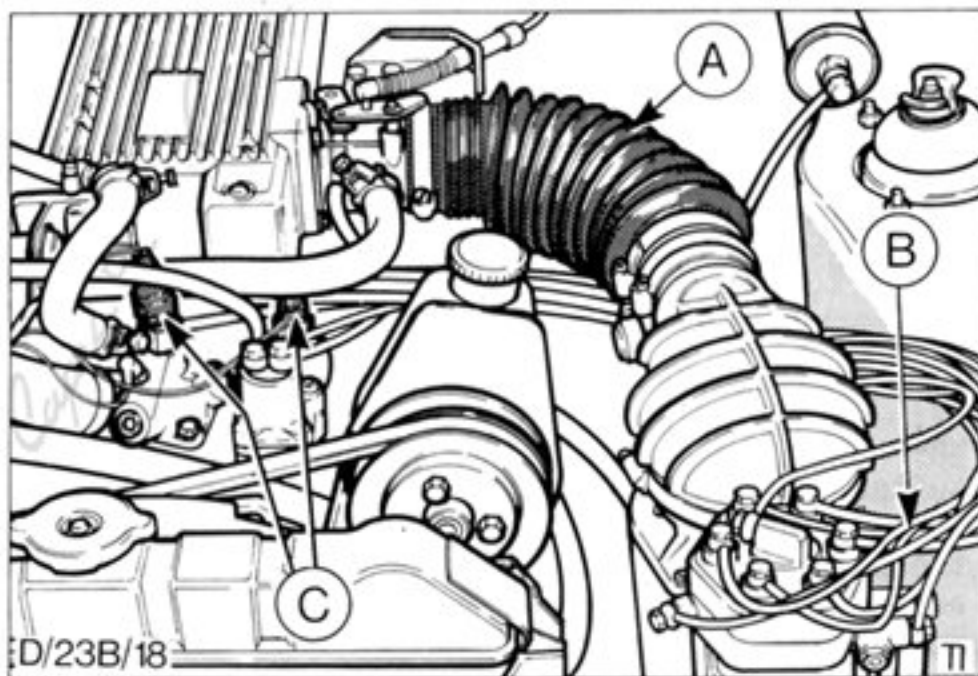

Fig.48. Injection system visual check.
- (b) Check all air hoses for splits and connection for secure fit, Fig.48.